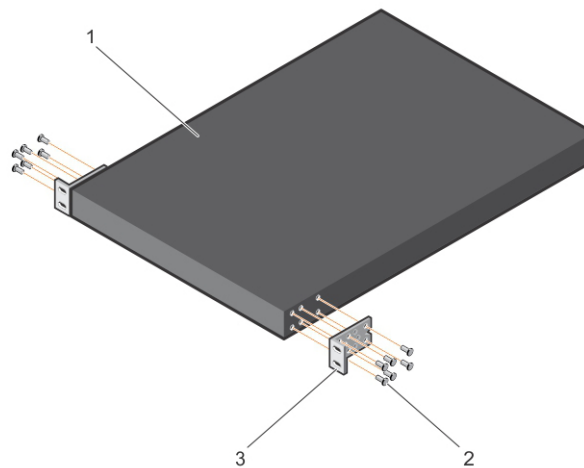

Figure 6. Attaching Mount Brackets to N20xx
2. Secure the bracket as in item 3 in Figure 6 to the chassis by tightening the screws as in item 2 in Figure 6 provided with the mount bracket.